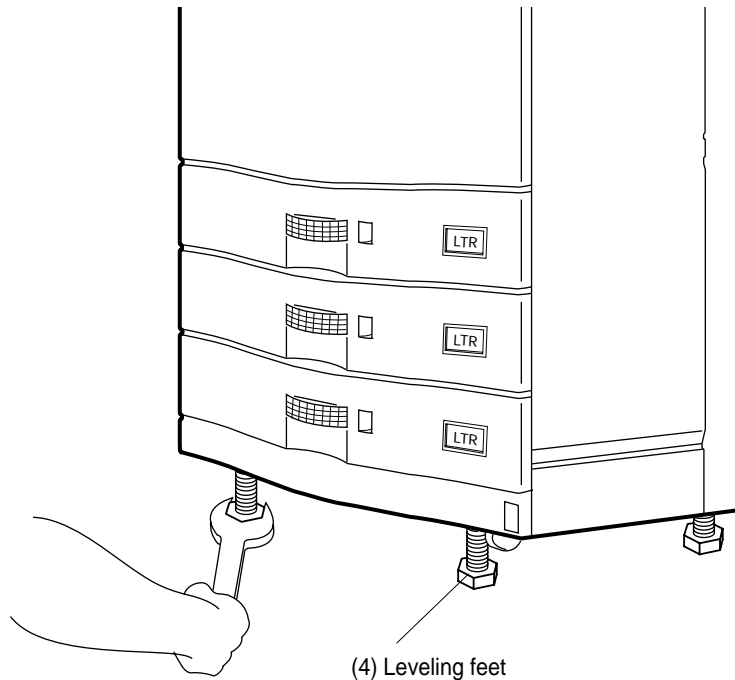

Figure 2-90 Securing the Leveling Feet
2. Use the wrench to lower the leveling bolts until the wheels are just off the ground, as shown in Figure 2-90.